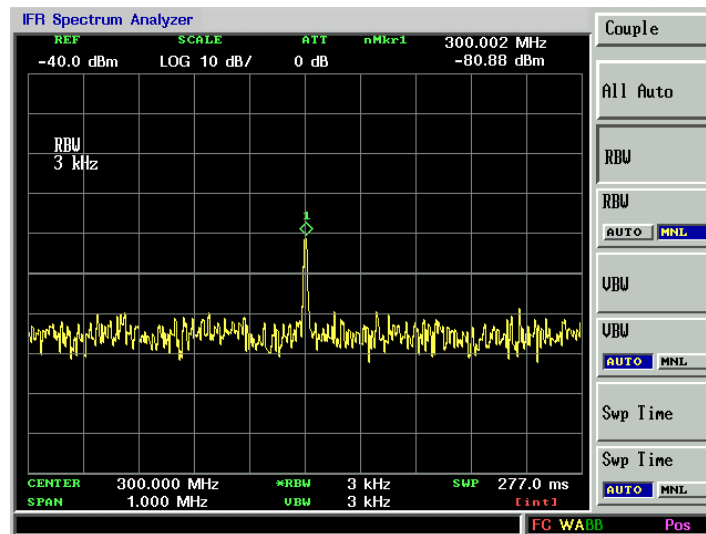

Figure 2-14. Decreasing Resolution Bandwidth
6. Press **CPL**, *RBW [MNL]*, *RBW*, and the step-down key (▼) to decrease RBW. The low level signal appears more clearly because the noise level is reduced. See Figure 2-14.